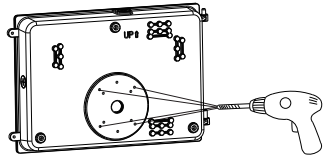

Fig. 1-2A
1. Drill an installation hole at the bottom of fixture, paste the EVA mat. (Fig. 1-2A&B)